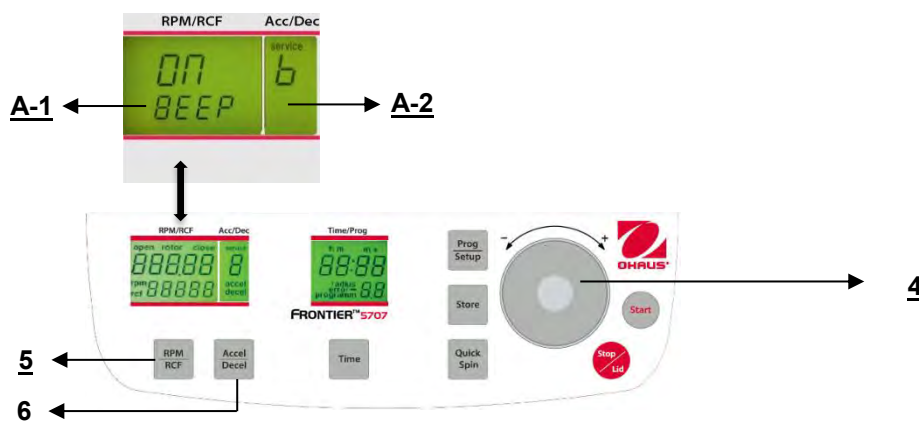

Figure. 32
Proceed as described under point 4.1.2 to enter this program mode and then press the key **"Accel/Decel"** (6). In the display **"Acc/Dec"** (A-2) the word **"Service"** flashes. Now select the letter **"B"** with the adjusting dial (4). As a result, in the display **"RPM/RCF"** (A-1), the word **"ON/BEEP "** appears. After pressing the key **"RPM/RCF"** (5), you can turn the keyboard sound (On) or (Off) with the adjusting dial (4). (See figure 32).